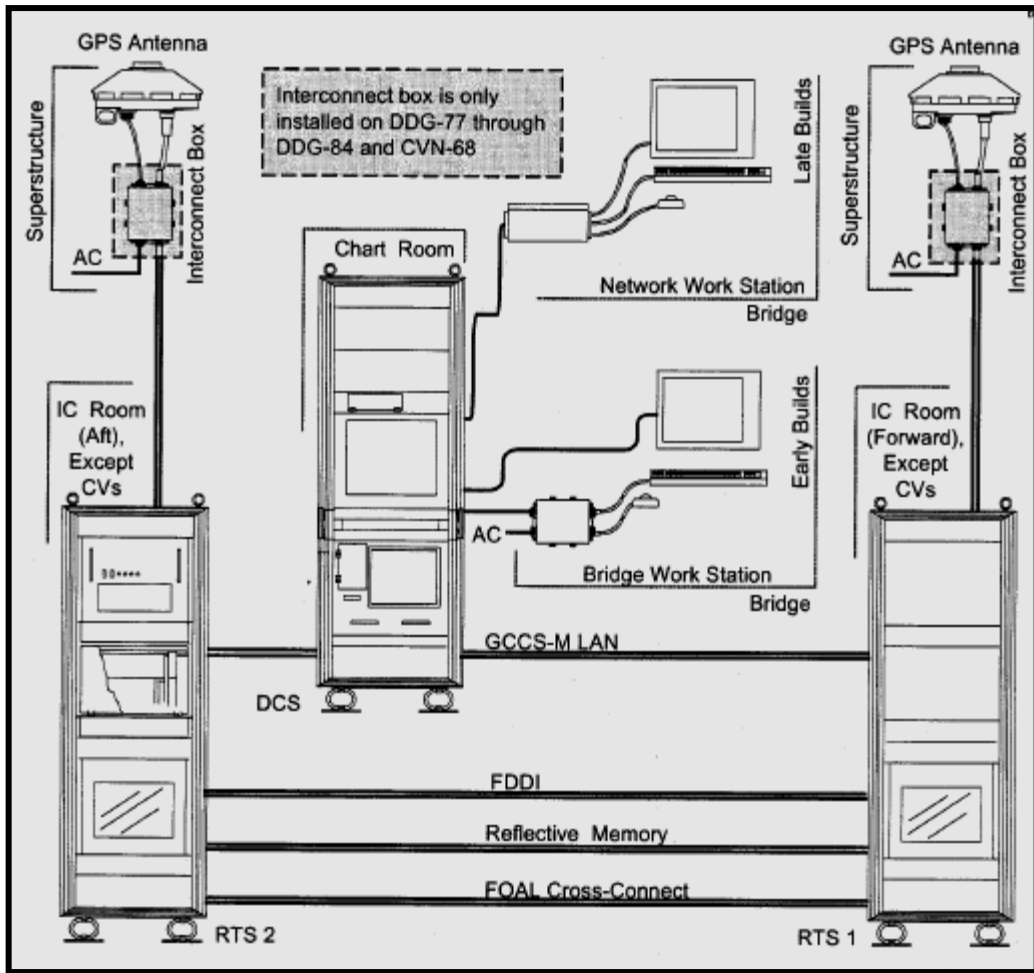

Figure 4-61.— Typical Dual-RTS NAVSSI Block 3 System.
The Block 3 system is configured as a dual RTS. The current Block 3, Build 2 systems are all dual RTS systems. Figure 4-61 shows a typical NAVSSI system with dual RTSs. A Local Area Network (LAN) links these hardware components via fiber-optic cabling.
A typical hardware configuration for the NAVSSI system is show in Figure 4-61. The DCS is normally located in the chart room, and the RTSs are located in the forward and aft Interior Communication (IC) rooms. Most NAVSSI installations include the NAVSSI Bridge Workstation (BWS). The BWS is a fully functional, remote operator, station for the DCS providing NAVSSI display and control capabilities to ship's force on the bridge.